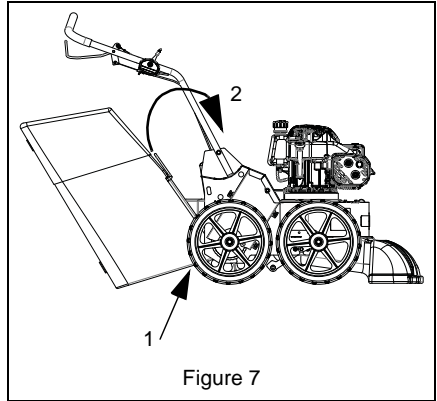

Figure 7
2. To attach bag, hook bottom of bag under unit frame and move bag handle forward and upward. Make sure bag engages the interlock switch for proper starting and operation. See Figure 7.